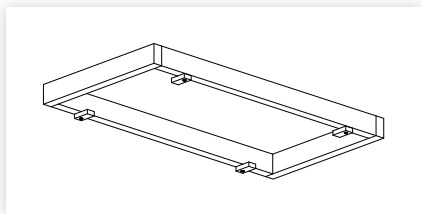

figure 8
1. Screw four temporary cleats approx 80mm x 40mm into your timber frame as shown in (figure 8). Ensure cleats can be rotated.